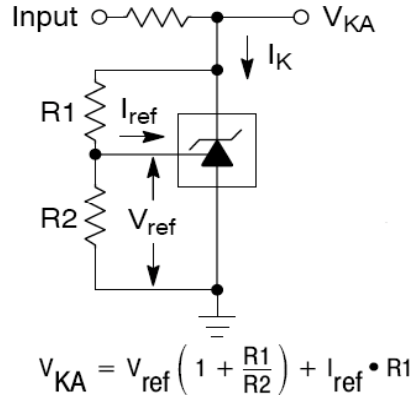

Figure 2: Vka > Vref
* When the device operating with two external resistors, R1 and R2, (refer to Figure 2) the total dynamic impedance of the circuit is given by: